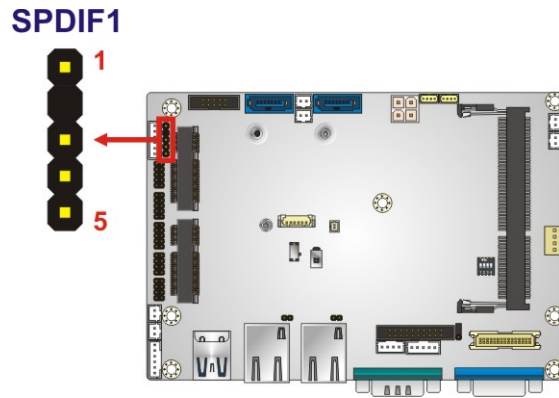

Figure 3-25: S/PDIF Connector Location
- CN Location:** See **Figure 3-25**